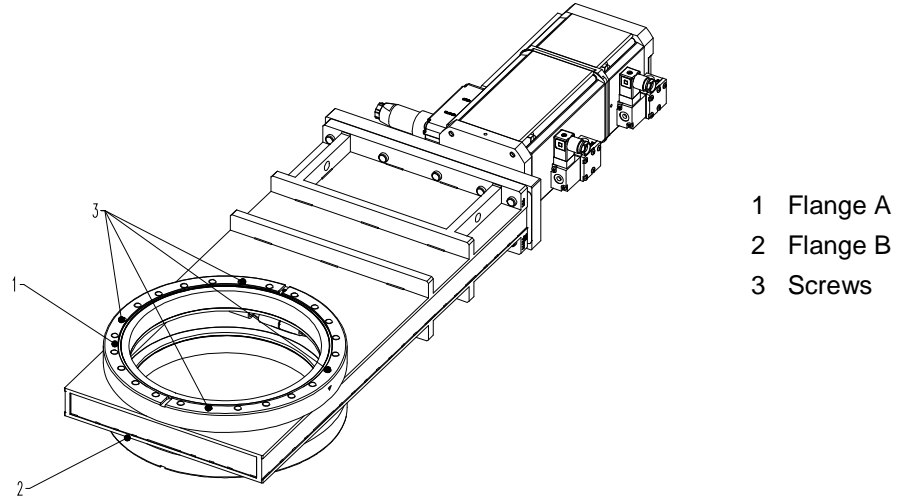

Figure 4-1
3. Clean sealing surfaces and seals of both flanges; see (1) and (2) according to «Figure 4-1» on page 11.
5. Mount the four screws (3) according to «Figure 4-1» on page 11, evenly in crosswise order until the seal touches the sealing surface.